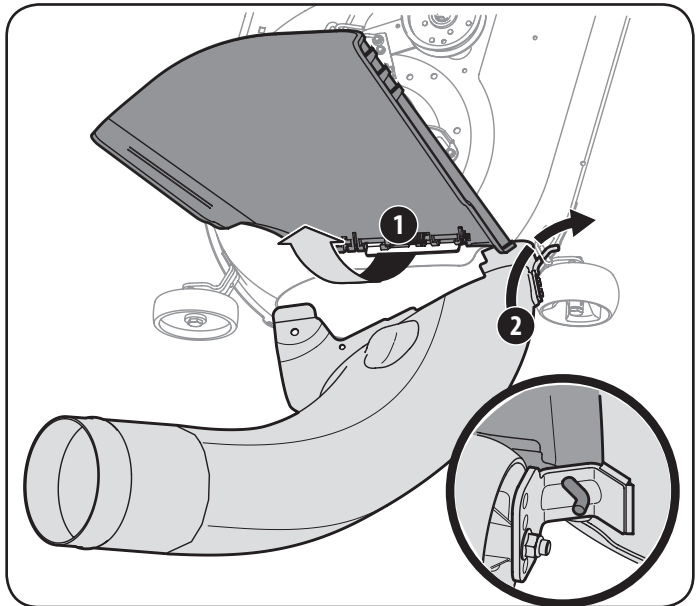

Figure 20
2. With the tractor's discharge chute raised up and held open (1), install the chute elbow by placing the chute elbow mounting rod into the chute mounting tab (2), as shown in Figure 20.